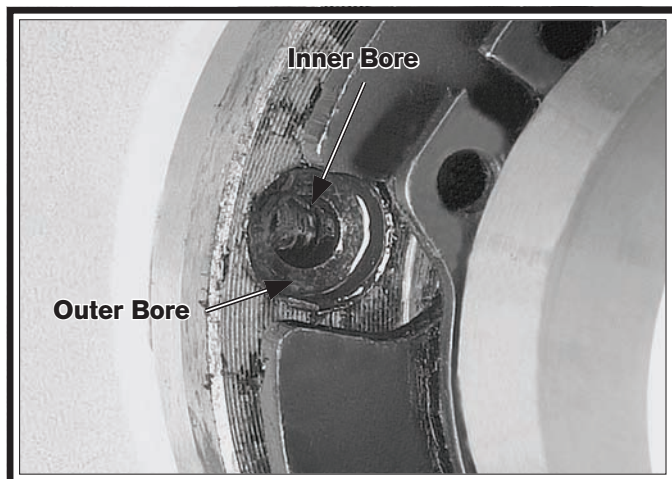

Figure 146. Aligned shear pin bores.
7. Use the magnet to remove the shear pin head, then rotate the lathe spindle to line up the inner and outer bores, as shown in **Figure 146**. Next, use the magnet to remove the other half of the broken shear pin when it becomes visible.